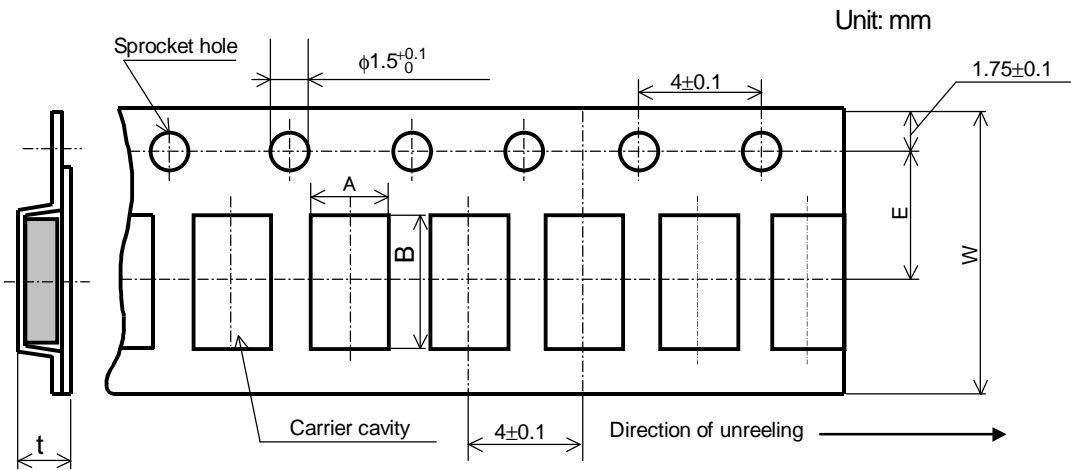

Figure-5
8.3 Embossed taping dimensions shall be in accordance with Figure-5 and Table-7.